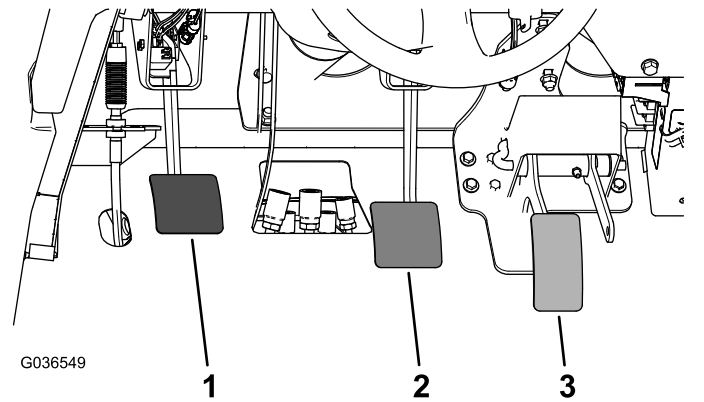

Figure 61
2. Lift up on the brake pedal (Figure 61) until it contacts the frame.
3. Loosen the jam nuts securing the yoke to the master cylinder shaft (Figure 61).